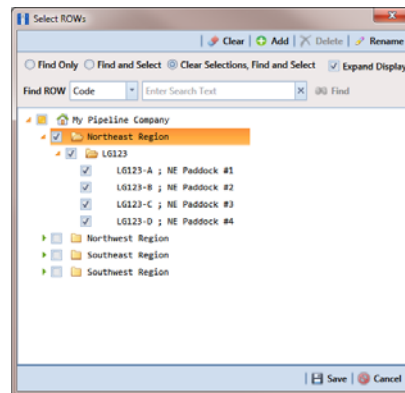

Figure 3-53. Select ROWs
- 1 Click **File > Select ROWs** to open the *Select ROWs* window. Select one or more pipeline segments and then click  **Save** to close the window (Figure 3-53).
- 1 Click **File > Select ROWs** to open the *Select ROWs* window. Select one or more pipeline segments and then click  **Save** to close the window (Figure 3-53, page 97).